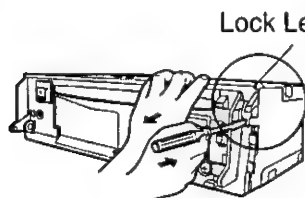

Fig. 1
- Remove Trim Plate ⑩ with a screwdriver as shown in the figure.
- Pull out the unit while pushing the two lock levers using the screwdriver. (→ Fig. 1, 2)